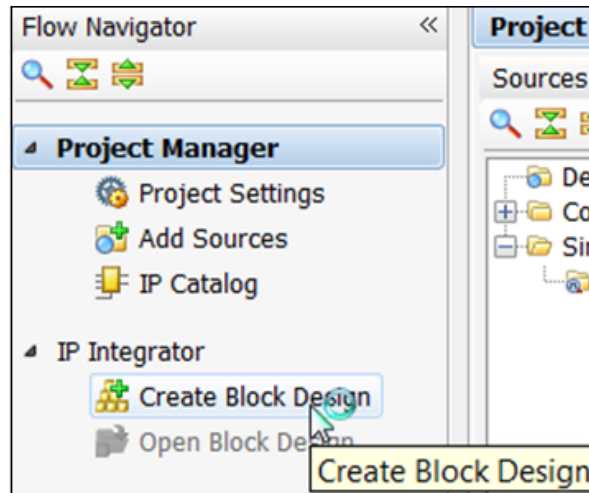

Figure 79: Create Block Design
1. From **Flow Navigator** > **IP integrator**, select **Create Block Design** (Figure 79).